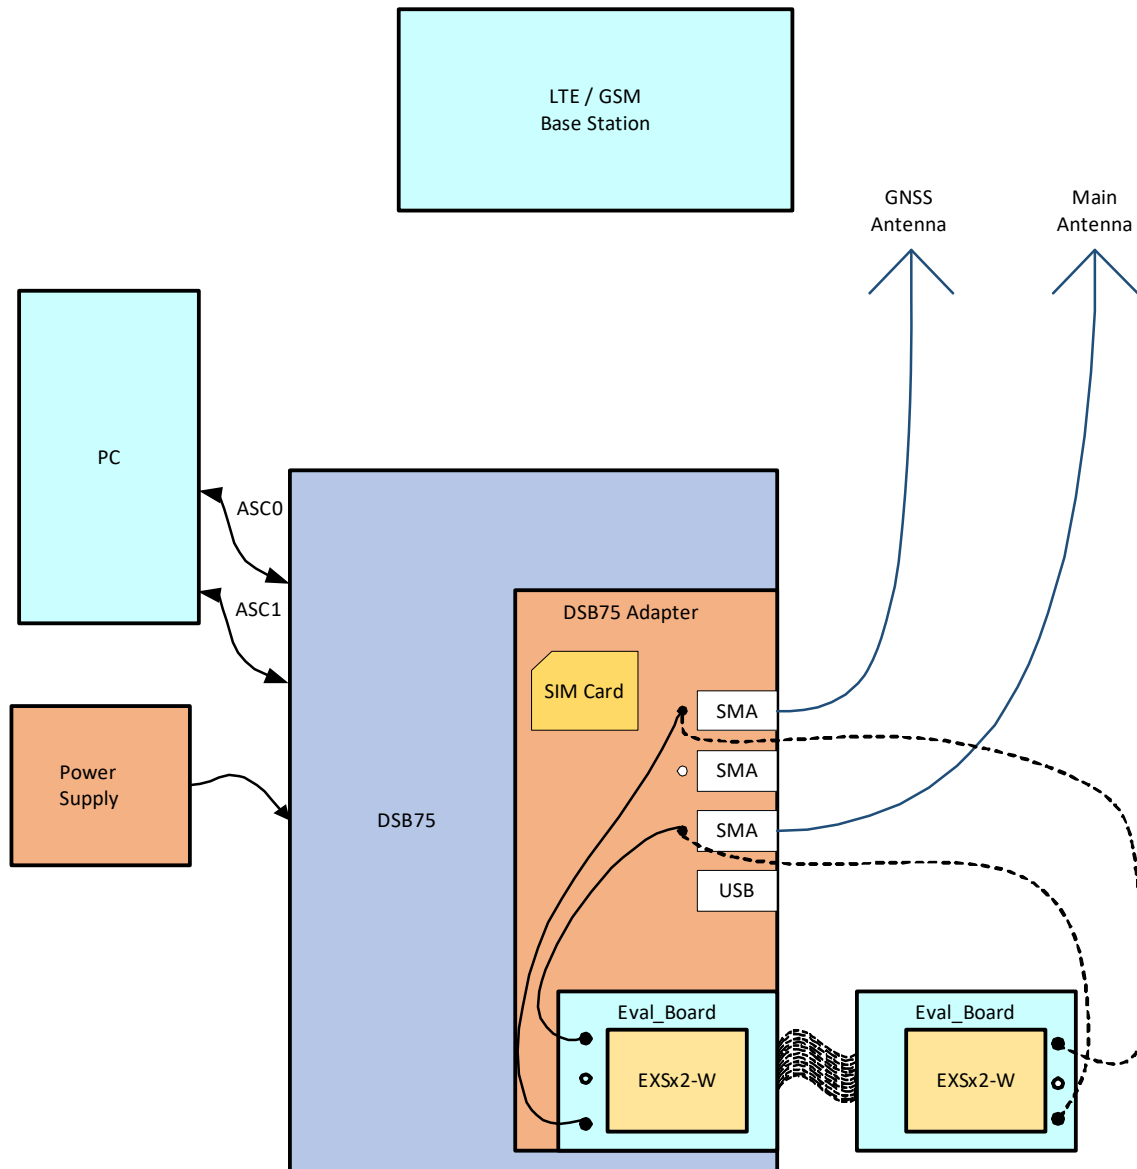

Figure 70: Reference equipment for type approval
1. For RF performance tests a mini-SMT/U.FL to SMA adapter with attached 6dB coaxial attenuator is chosen to connect the evaluation module directly to the GSM/LTE/GNSS test equipment instead of employing the SMA antenna connectors on the EXSx2-W-DSB75 adapter as shown in Figure 70. The following products are recommended: